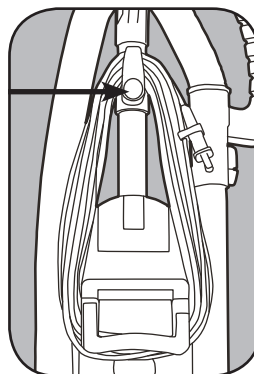

Fig. 2
3. Turn the upper cord storage hook to the upright position and wind the power cord around the cord storage hooks when storing the vacuum cleaner (Fig. 2).
1. The upper cord storage hook has a quick-release action. To release the cord, rotate the hook downward and the cord will drop off the handle for immediate use (Fig. 2).